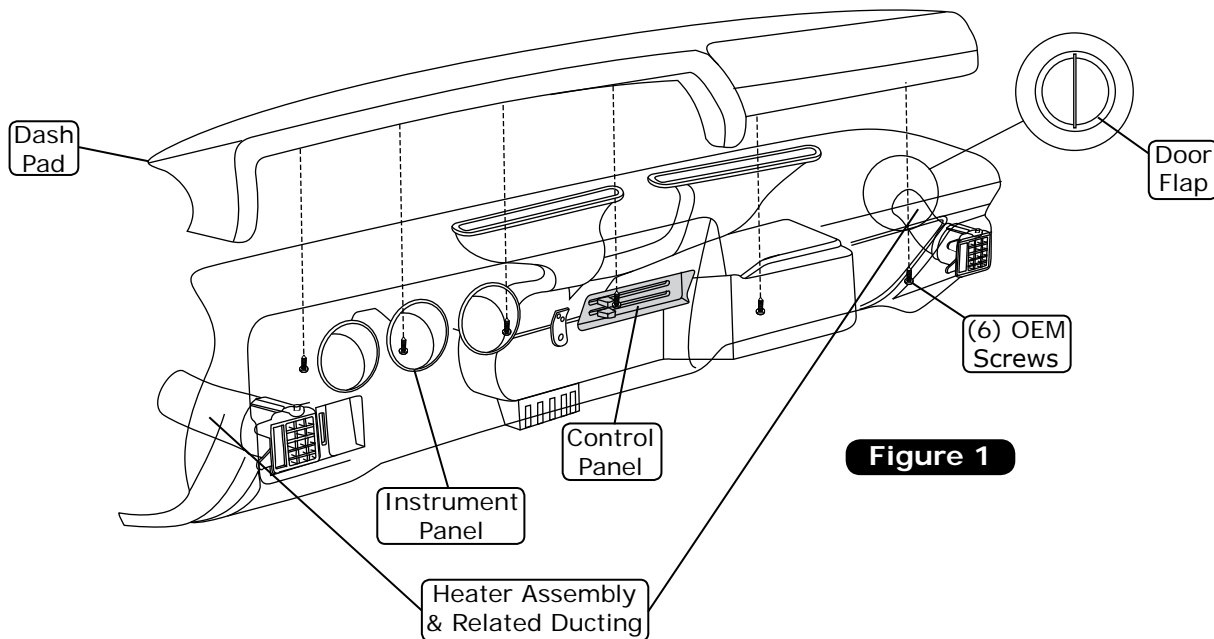

Figure 1
8. Remove passenger side kick panel/fresh air door assembly as shown in Figure 1, Page 8.